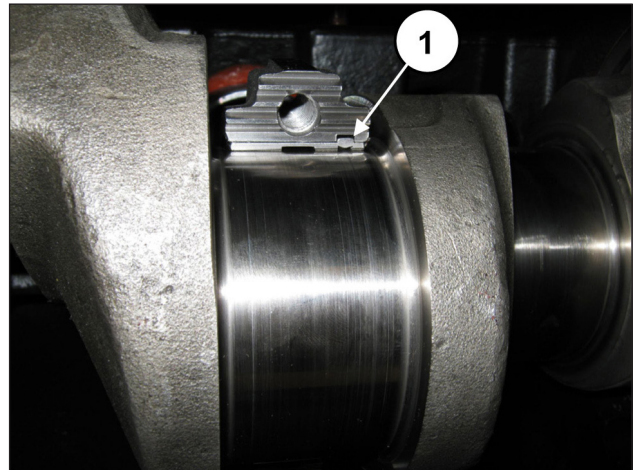

Fig. 66
**For proper assembly of the half-bearings, ensure that the reference tab on the half-bearings are positioned in their housing on the half support (pos. ①, Fig. 66).**